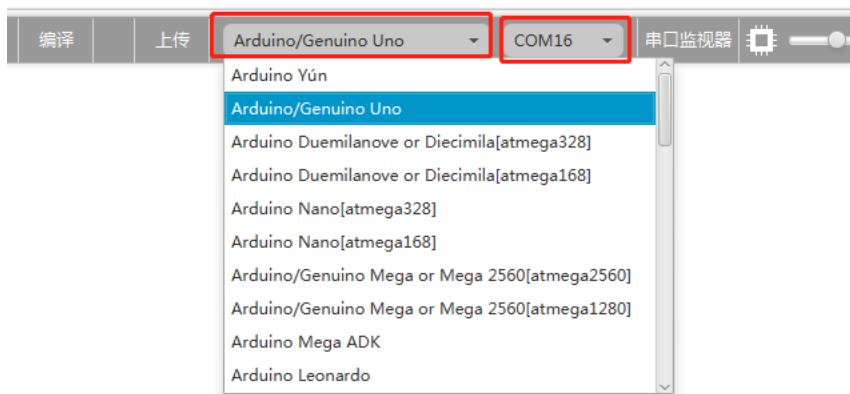

Figure 2-3-1
- 2) Click the pull-down box on the right of "Upload" to select the model of the main control board, and then click the second pull-down box on the right to select the USB serial port, as shown in figure 2-3-1. After selection, mixly and the motordriverboard are successfully connected.